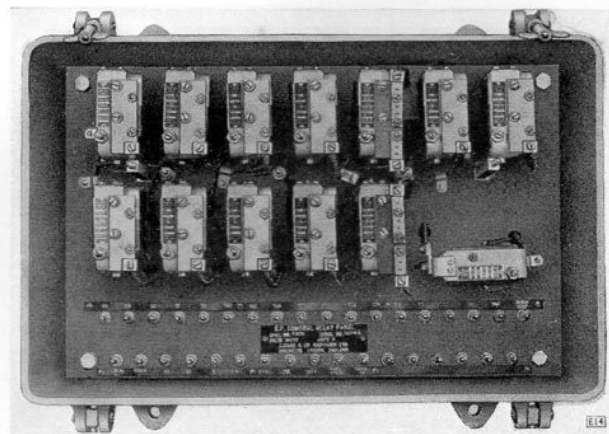

Fig. 17. E.P. control relay panel
E.P. control relay panel (see Fig. 17)